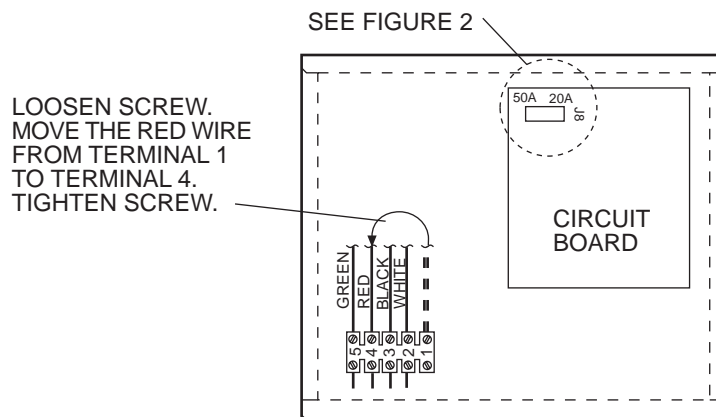

FIGURE 1
4. Loosen screws at bottom side of terminal block and remove power cord cable clamp. Remove and discard GFCI power cord. Refer to Figure 1.
5. Install 230 VAC 4-wire power cord in accordance with local code requirements. Insert the wires into the bottom side of the terminal block and tighten the screws. Refer to Figure 1.
6. Loosen the screw on the top side of the terminal block. Move the red wire from position 1 to position 4. Tighten the screw. Refer to Figure 1.
7. Move the jumper at circuit board location J8 from 20A position to 50A position. Refer to Figures 1 and 2.